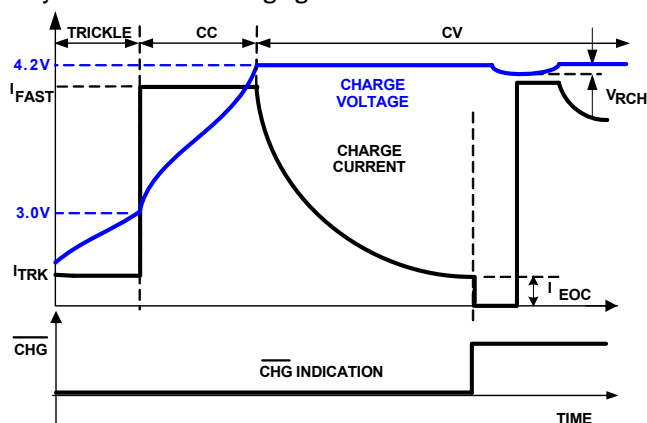

FIGURE 29. TYPICAL CHARGING CYCLE FOR CONT = L
The charger function is similar to other Li-ion battery chargers, i.e., it charges the battery at a constant current (CC) or a constant voltage (CV) depending on the battery terminal voltage. The constant current IFAST is set by the external resistor RREF. Depending on the combination of the AC/USB and the MODE pin status, the actual charge current may be reduced by the input current limit. When the battery voltage reaches the final voltage of 4.2V, the charger enters the CV mode and regulates the battery voltage at 4.2V to fully charge the battery without the risk of overcharging. Upon reaching an end-of-charge (EOC) current, the CHG will turn to high impedance to indicate a charge complete state and if CONT is low, Q2 will be turned off to terminate charging. Figure 29 shows the typical charge profile with the EOC recharge events when CONT is low.